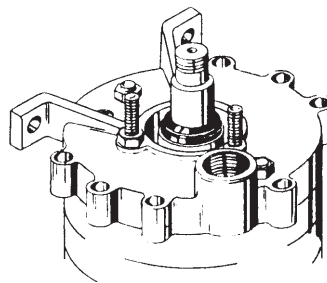

Figure 4-13
22. The seal rotating element can now be installed.(refer to figure 4-13) One and two stage pumps position the seal (#12B) by a shoulder on the shaft. Three and four stage pumps locate the seal